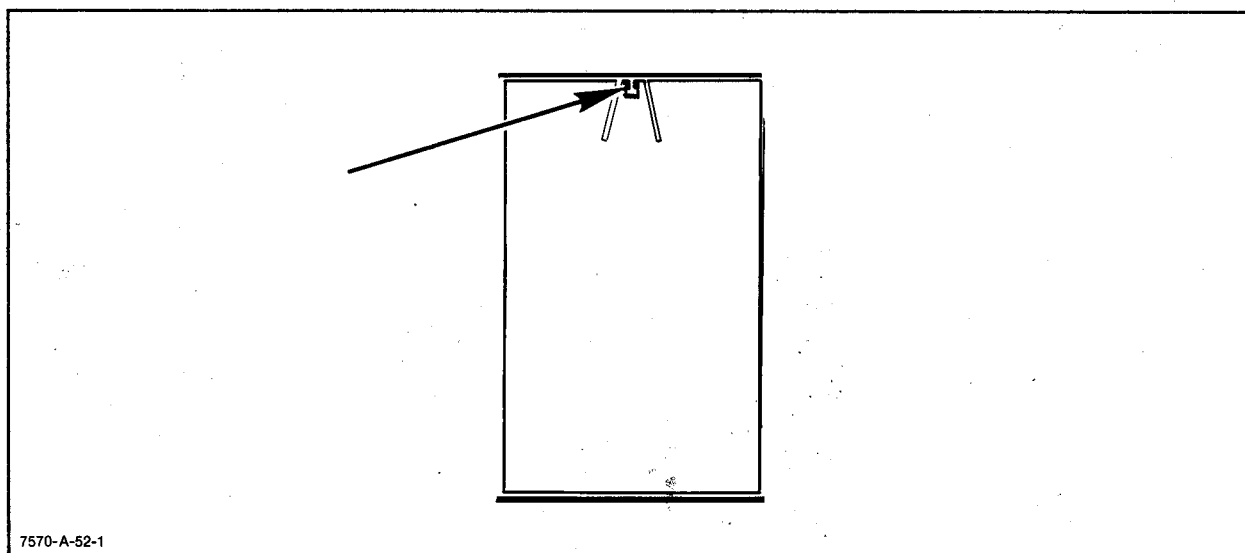

Figure 6-2. Chassis Cover Latch
- c. Press up firmly on the metal tab under the front edge of the cover, while pulling out and up on the lower front edge of the chassis cover. See Figure 6-2. Chassis Cover Latch.